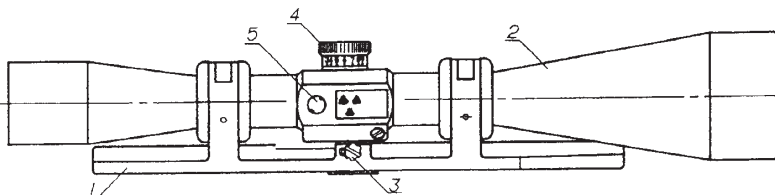

Fig.11 – Optical sight
14. The optical sight (Fig. 11) serves for firing at various distances.